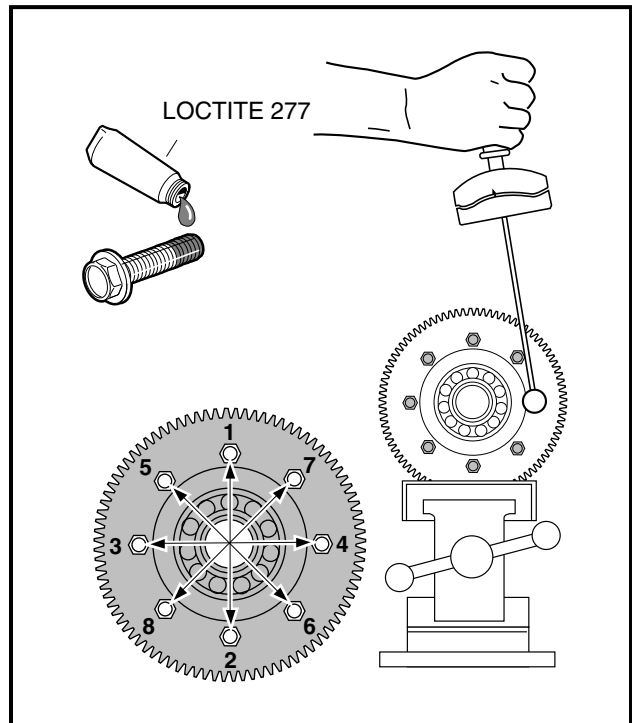

Figure 5-38 Retaining Bolts
7. Apply Loctite 277® on the eight mounting bolt threads. Install them through the ring gear, carrier case, and into the carrier case cover. Tighten to 18 ft-lb (24.4 N·m) in sequence shown (**Figure 5-38, Page 5-20**).